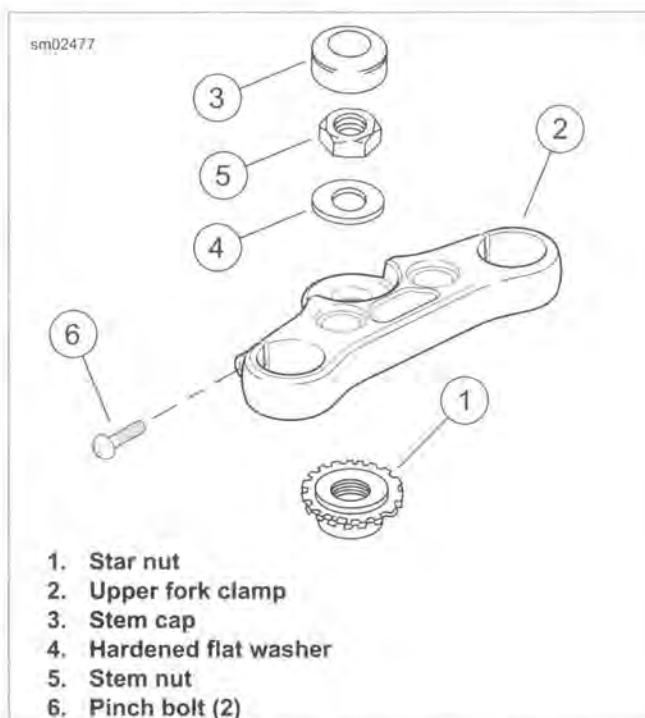

Figure 1-36. Steering Head Components
- See Figure 1-36. Using HUBCAP REMOVER AND INSTALLER (Part No. HD-41494), Remove stem cap (3).
- Using FORK NUT SOCKET (Part No. HD-50651) loosen stem nut (5).